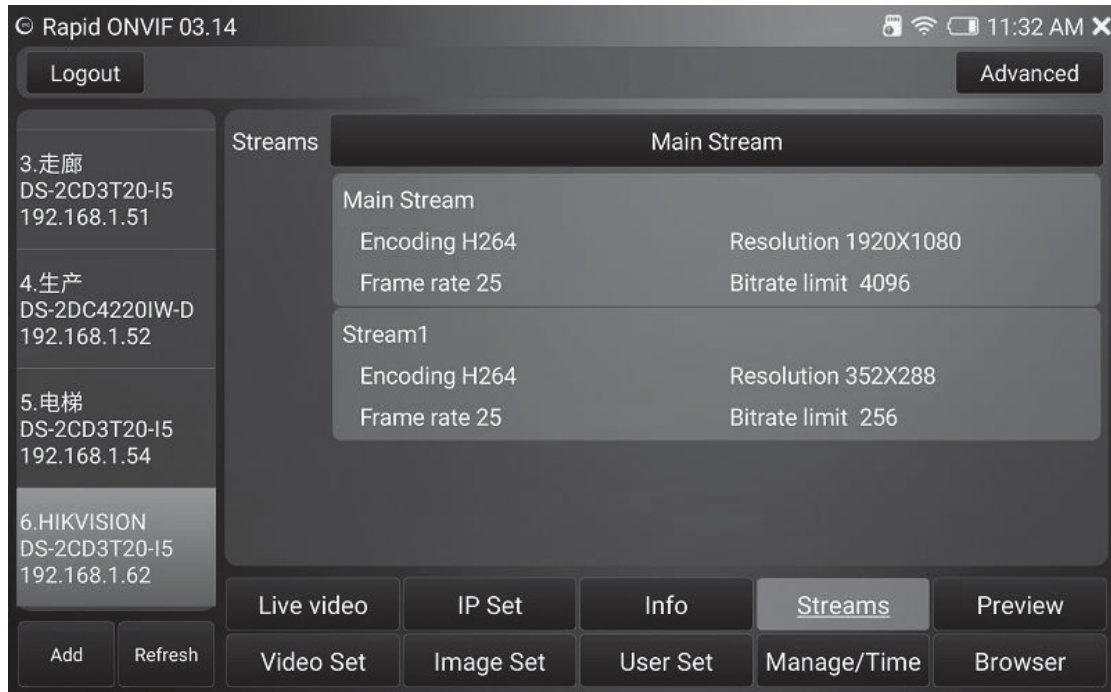

Figure 23
7) Stream selection, touch the 'Streams' button to view the current stream configuration file, you can switch between main stream and auxiliary stream, as shown in Figure23